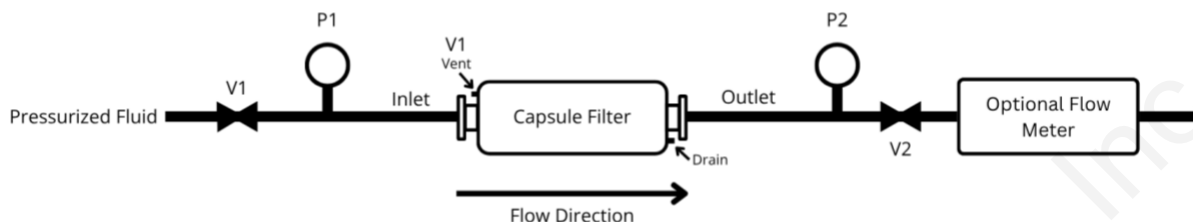

Figure 2: Capsule Wetting
- Set up the capsule as shown in Figure 2.
- Make sure to position the capsule so the Vent port (V) is the highest point of the capsule, and the Drain port (D) is the lowest.
- Open the vent (V). If required, the vent can be connected to a piece of tubing to direct the venting fluid to an appropriate receptacle.